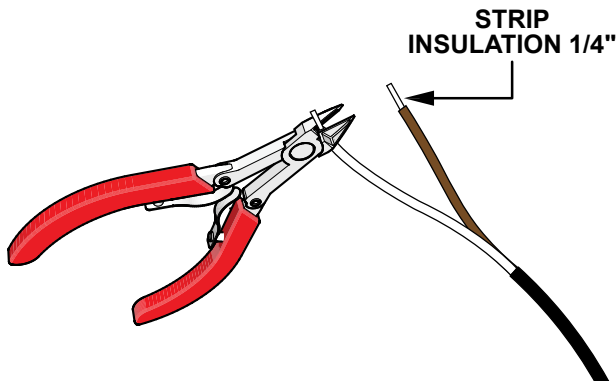

Figure 4. Strip Wire Insulation
- Strip the insulation back 1/4 inch (6.4 mm) from the cut end of each of the wires to expose the conductors. See Figure 4.